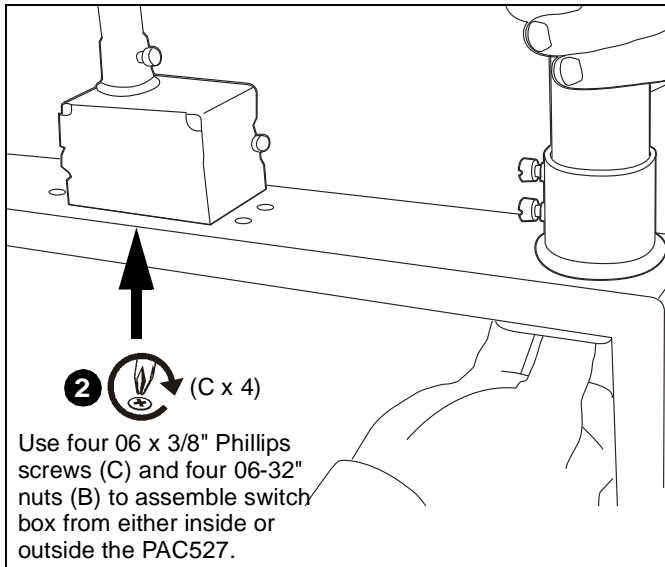

Figure 7
- Loosely attach required conduit and conduit connectors, switch boxes, outlets, etc (not included) to PAC527 to enable fitting into the wall opening. (See Figure 7)